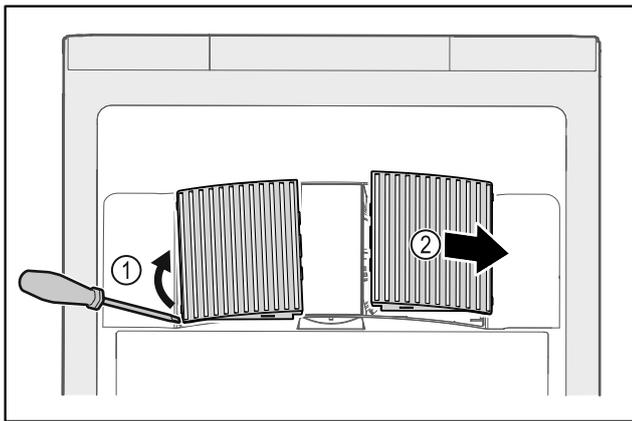

Fig. 165
- ▶ Carefully lever out fan covers from the side Fig. 165 (1) and remove towards the front Fig. 165 (2).